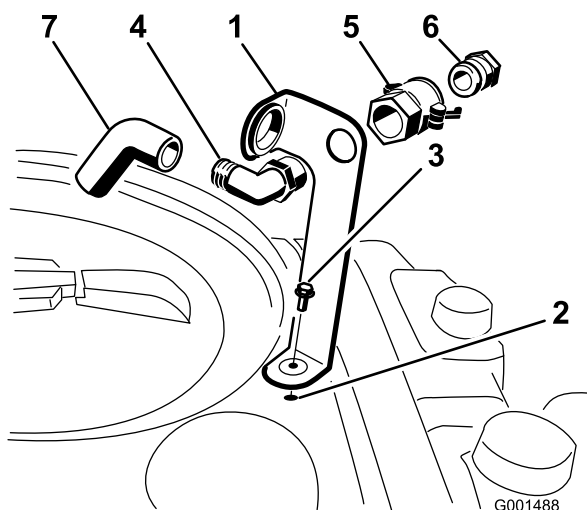

Figure 3
1. Place the fill receptacle bracket over the threaded hole in the tank and secure it with a flange-head bolt (5/16 x 3/4 inch) (Figure 3).
2. Place the threaded end of the 90 degree elbow fitting through the bracket and thread the quick coupler onto it, securing it to the bracket (Figure 3).
3. Install the hose adapter into the quick coupler (Figure 3).
4. Lock the adapter into place by swinging the levers toward the adapter and then secure them with the hairpin cotters (Figure 3).
5. Install the anti-siphon hose through the large opening on the bracket and onto the barbed end of the 90 degree elbow fitting (Figure 3).